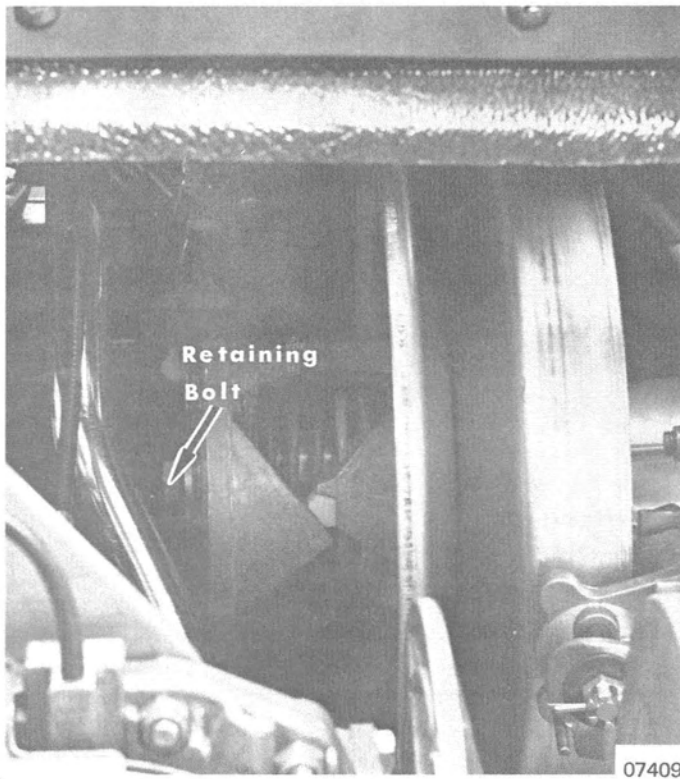

Figure 1. Removing Sheave
3. Hold vehicle brake and remove driven sheave retaining bolt. (Figure 1)